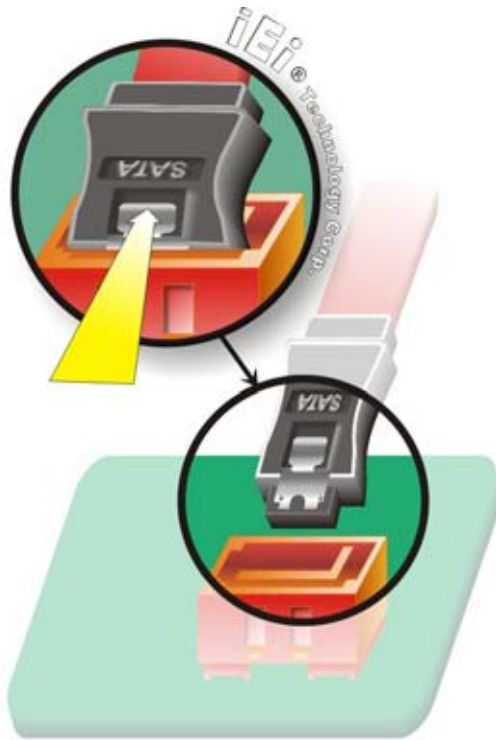

Figure 5-6: SATA Drive Cable Connection
Step 2: **Insert the cable connector.** Press the clip on the connector at the end of the SATA cable and insert the cable connector into the onboard SATA drive connector. See **Figure 5-6**.